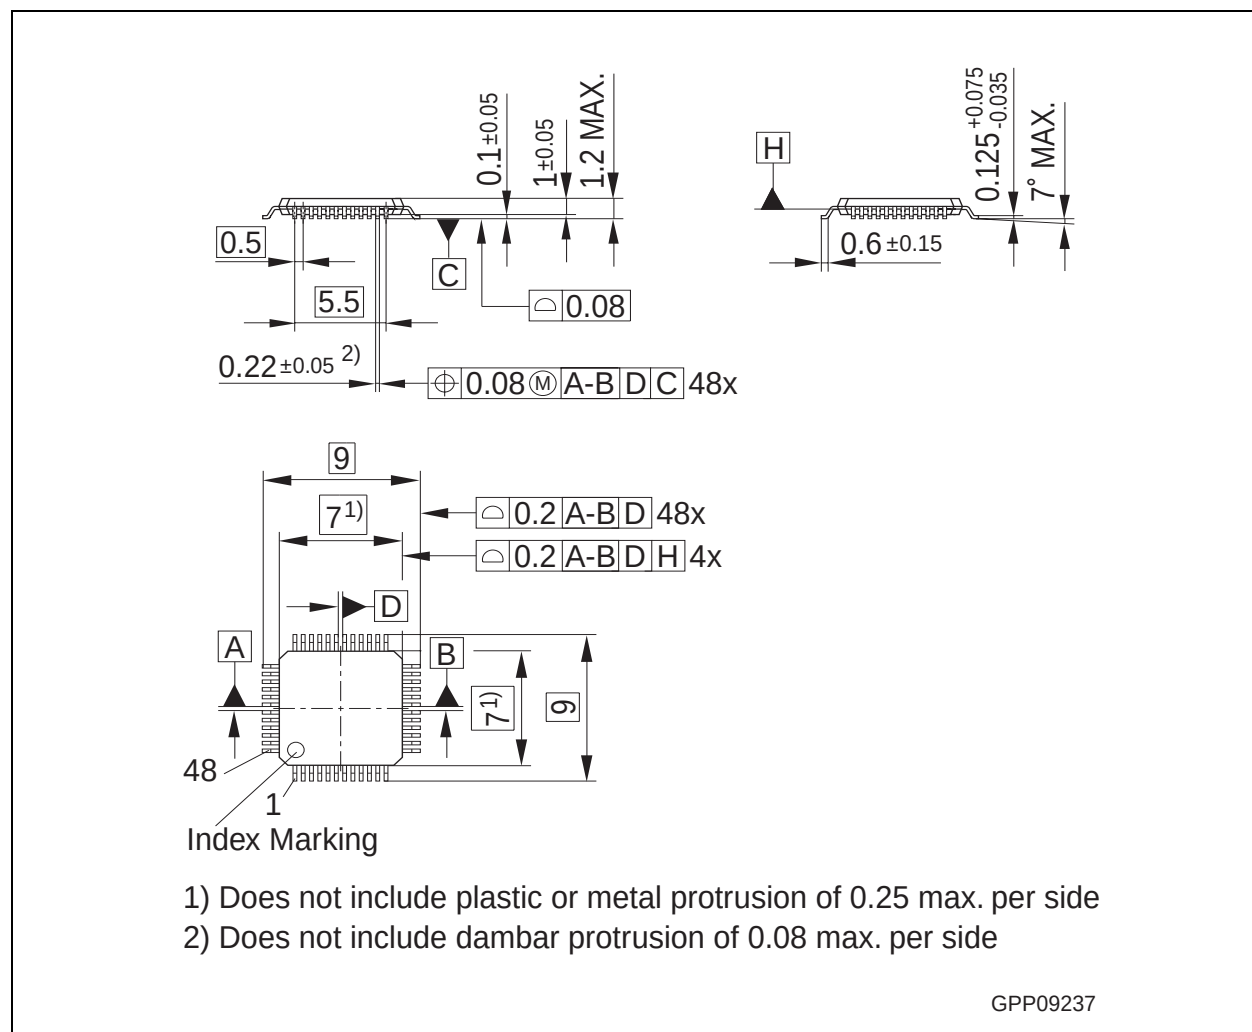

**Figure 48 PG-TQFP-48 Package Outline**
**Figure 48** shows the package outlines of the XC886.